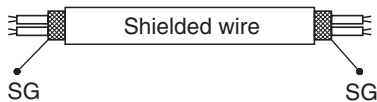

Fig. 4-6
- (5) Use shielded wires for inter-unit control wiring (C) and ground the shield on both sides, otherwise misoperation from noise may occur. (Fig. 4-6)